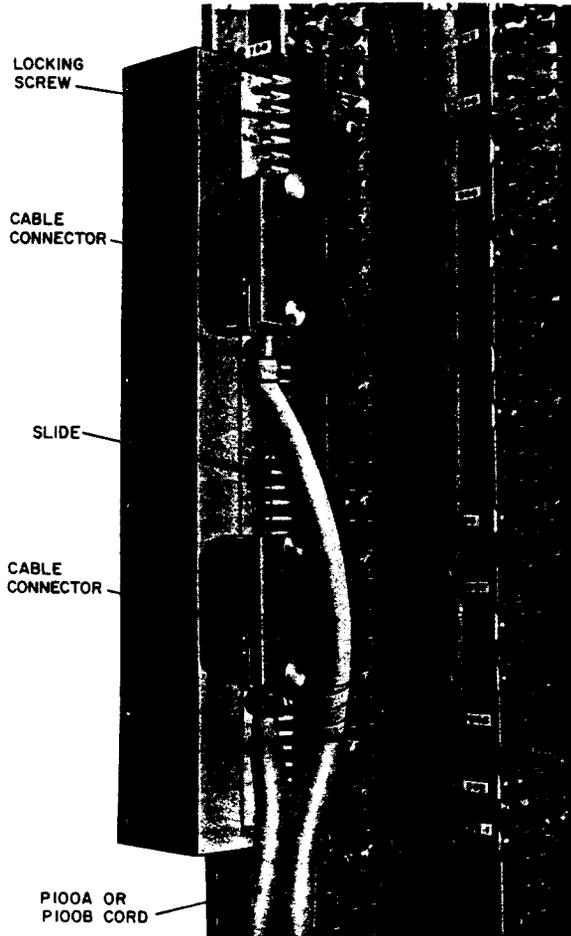

Figure 15—C Test Connector (AT-8214) on 300-Type Connector
2.16 The C test connector (Figure 15) has two 25-pair connectors on the face for attaching a P100A or P100B cord.